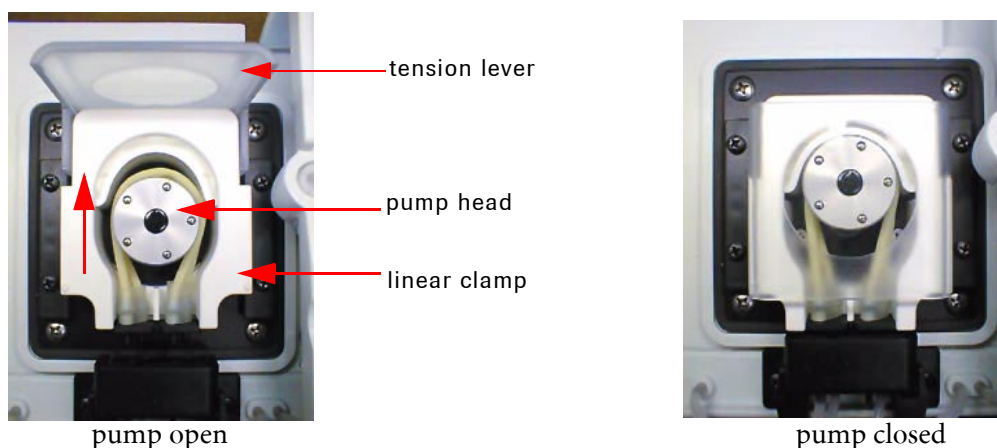

Fig. 19
- Open the peristaltic pump's clear plastic cover (tension lever). Push the linear bracket (white plastic part) upwards (Fig. 19).